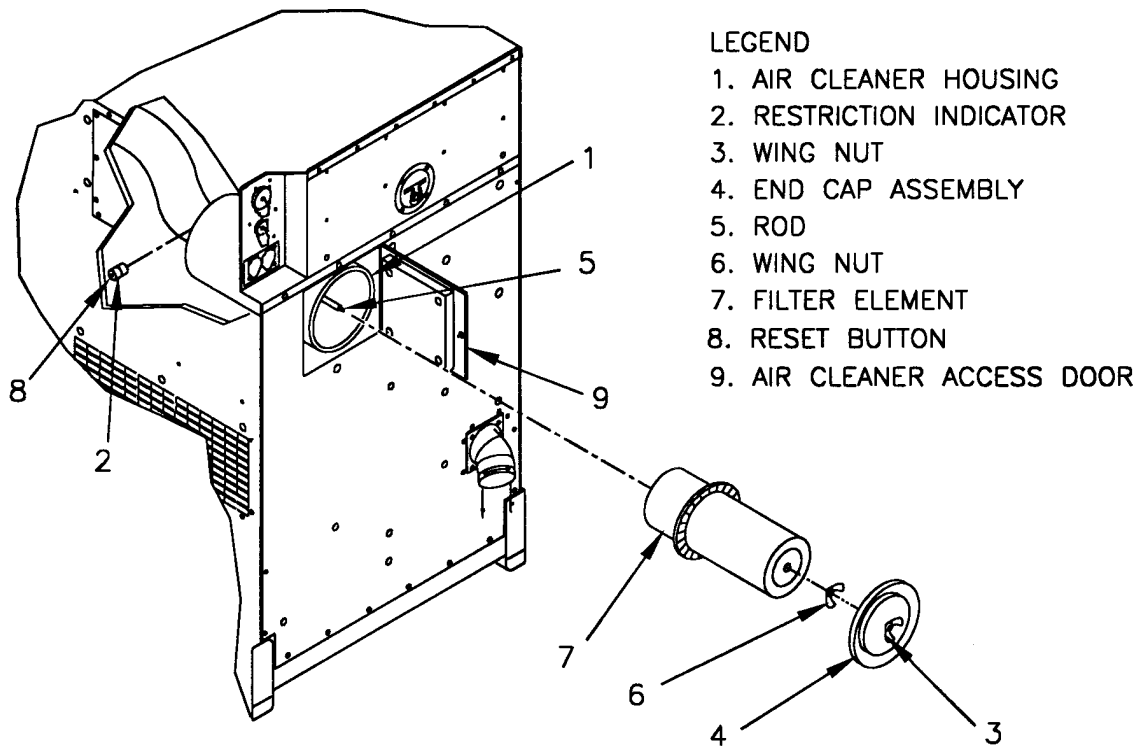

FIGURE 3-1. AIR CLEANER ELEMENT REPLACEMENT
- (1) Shut down generator set, paragraph 2.11.2.
- (2) Open AIR CLEANER ACCESS door (9, Figure 3-1) at rear of generator set.
- (3) Inspect air cleaner housing (1) for dents, corrosion, missing hardware, and other damage.
- (4) Close AIR CLEANER ACCESS door (9, Figure 3-1).
- (3) Loosen wing nut (3, Figure 3-1), and remove end cap assembly (4) from rod (5) in air cleaner housing (1).
- (4) Remove wing nut (6) and filter element (7) from rod (5). If dirty or worn, replace filter element.
- (5) Inspect inside of air cleaner housing (1) for debris and grime. Wipe housing interior with clean, lint-free cloth (Item 8, Appendix E).
- (6) Install filter element (7) and wing nut (6) on rod (5).
- (7) Install end cap assembly (4) on rod (5), and tighten wing nut (3) fingertight.
- (8) Close AIR CLEANER ACCESS door (9).